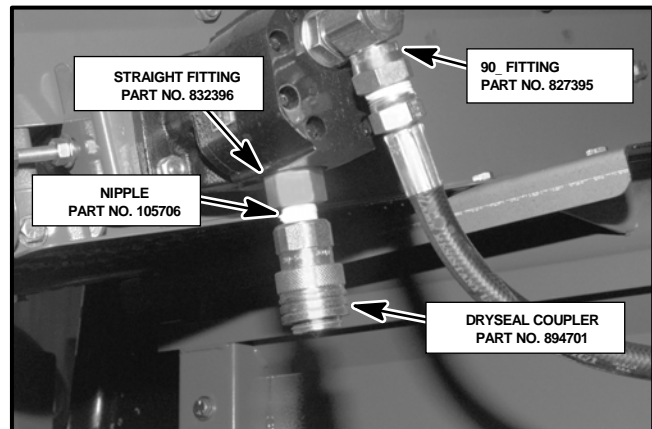
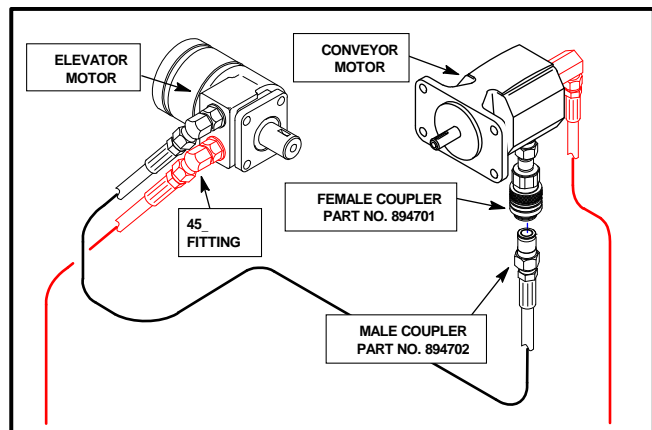

Figure 34
Figure 35
1. Install the 90\_ hydraulic fitting (Part No. 827395) from the Accessory Kit, to the **back** of the conveyor motor. Tighten the fitting so the hose connector is facing down and slightly turned towards the box (See Fig. 34).
2. Install the straight hydraulic fitting (Part No. 832396) from the Accessory Kit, to the **bottom** of the conveyor motor and tighten (See Fig. 34).
4. Locate one (1) dryseal female coupler (Part No. 894701) from the Kit. Install the coupler to the end of the pipe nipple previously installed (make sure Teflon tape is applied to the nipple).
5. Apply a couple turns of new Teflon tape to the hose end and install one (1) hydraulic male coupler (Part No. 894702) from the Kit. Route the hose to the conveyor motor and connect the male coupler to the female coupler on the bottom of motor (See Fig. 35).
6. Apply Teflon tape to the threads of the 45\_ fittings (Part No. 521949) and install and secure fittings to the elevator motor (See Fig. 35).
8. Apply Teflon tape to the other end of the hose. Locate one (1) dryseal female coupler (Part No. 894701) from the Kit and install it on the hose end.